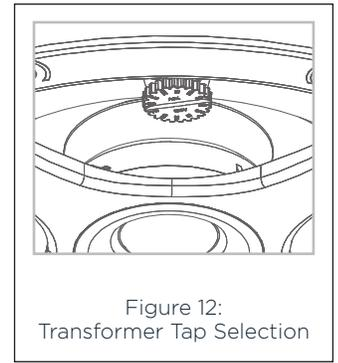

Figure 12:
- The transformer tap selector can be set. Depending on your installation you may wait to set the volume of each speaker until the system is completely installed (see Figure 12).